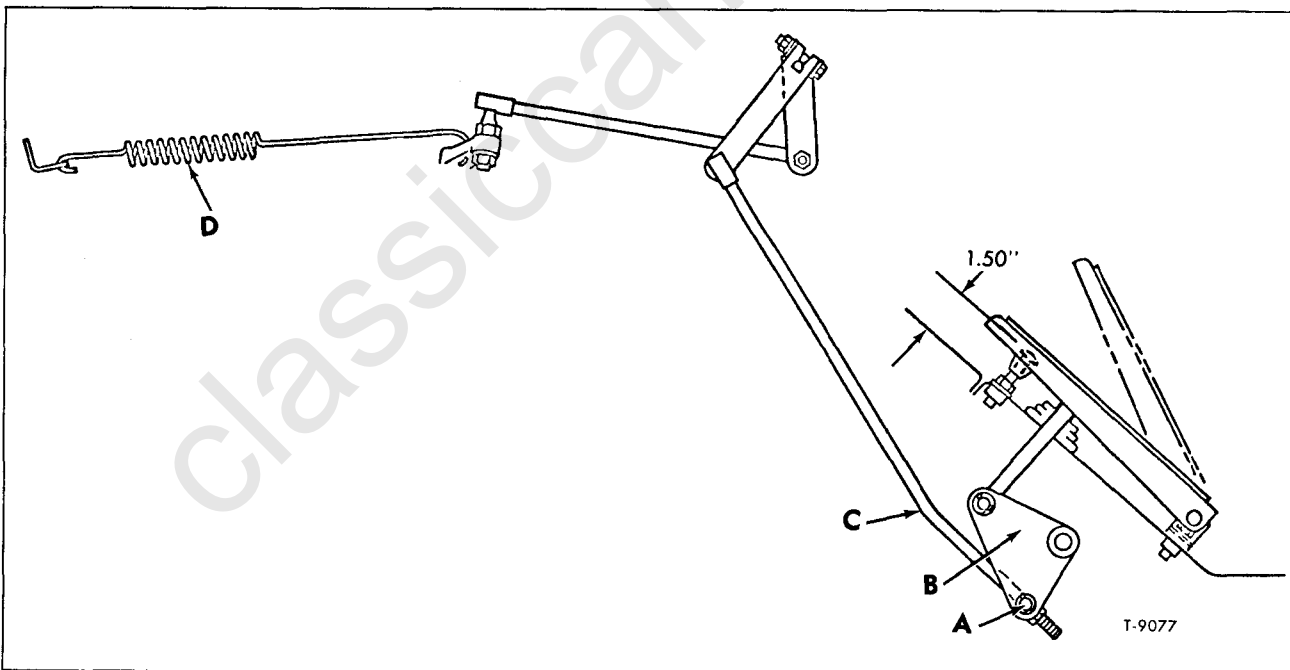

Figure 3—Accelerator Linkage (HH and JH Models)
(Refer to Figure 3)
1. Adjust accelerator pedal stop bolt to 1.50" dimension from the floor board to top of adjusting bolt as shown in figure 3.